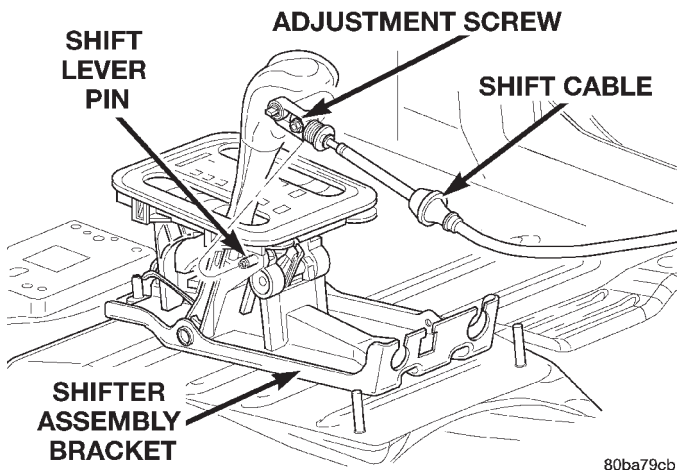

Fig. 51 Shift Cable at the Shifter
- (2) Remove shift lever bezel and floor console as necessary for access to the shift cable adjustment.
- (3) Loosen the shift cable adjustment screw (Fig. 51).
- (9) Lower vehicle
- (10) Tighten the shift cable adjustment screw to 7 N·m (65 in. lbs.).
- (11) Verify correct operation.
- (12) Install the shifter bezel and any floor console components removed for access.